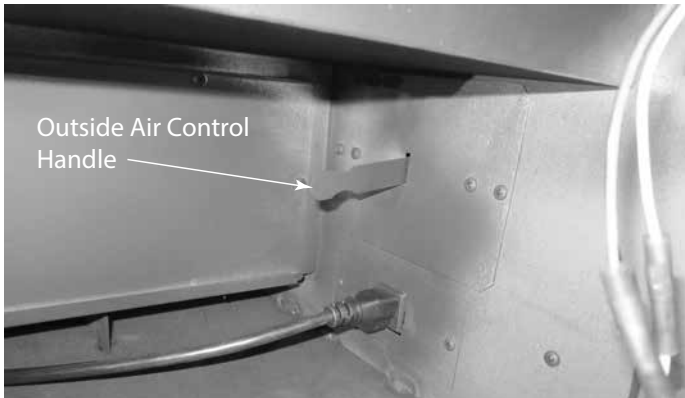

Figure 3.21 Outside Air Handle Shown on Right Side
- Open outside air by opening the lower access panel and locate the outside air handle (it could be on the left or right). Lift the handle up and pull out to open. See Figure 3.21.